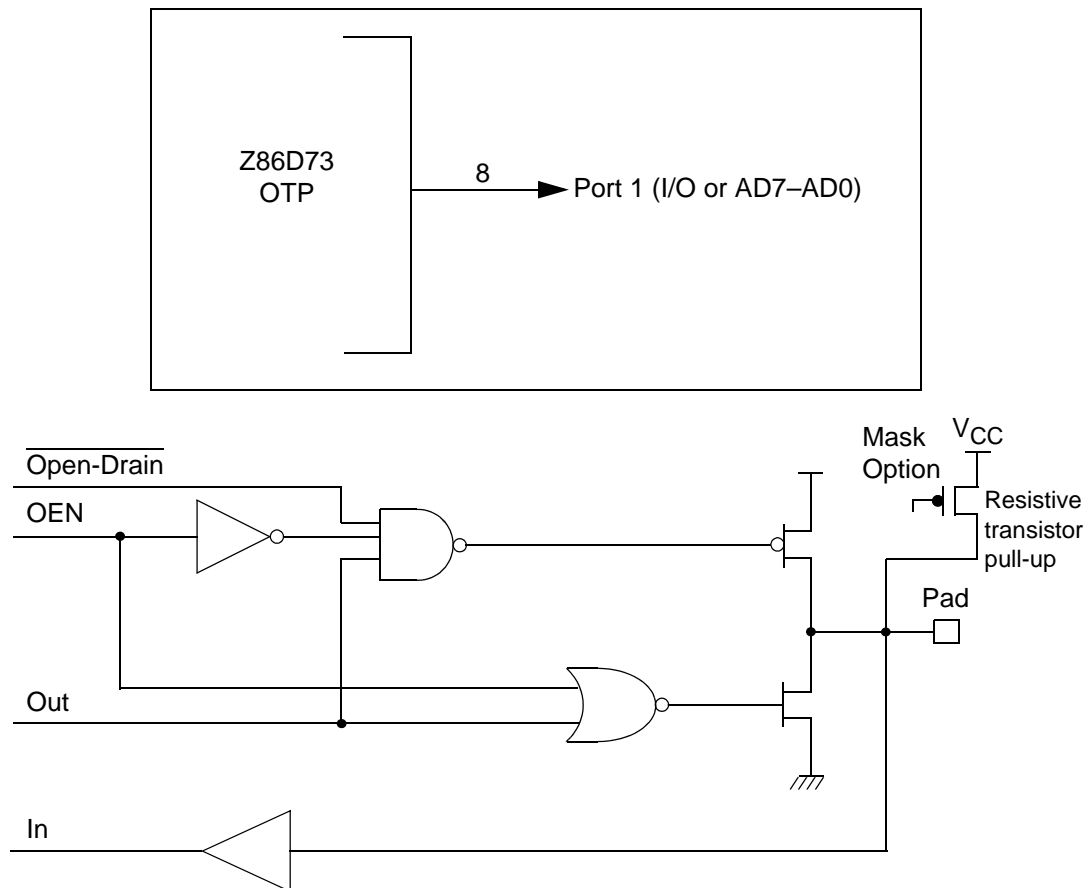

Figure 11. Port 1 Configuration
Port 1 (see Figure 11) is a multiplexed Address (A7–A0) and Data (D7–D0), CMOS-compatible port. Port 1 is dedicated to the ZiLOG ZBus[®]-compatible memory interface. The operations of Port 1 are supported by the Address Strobe (\overline{AS}) and Data Strobe (\overline{DS}) lines and by the Read/Write (R/W) and Data Memory (DM) control lines. Data memory read/write operations are done through this port. If more than 256 external locations are required, Port 0 outputs the additional lines.